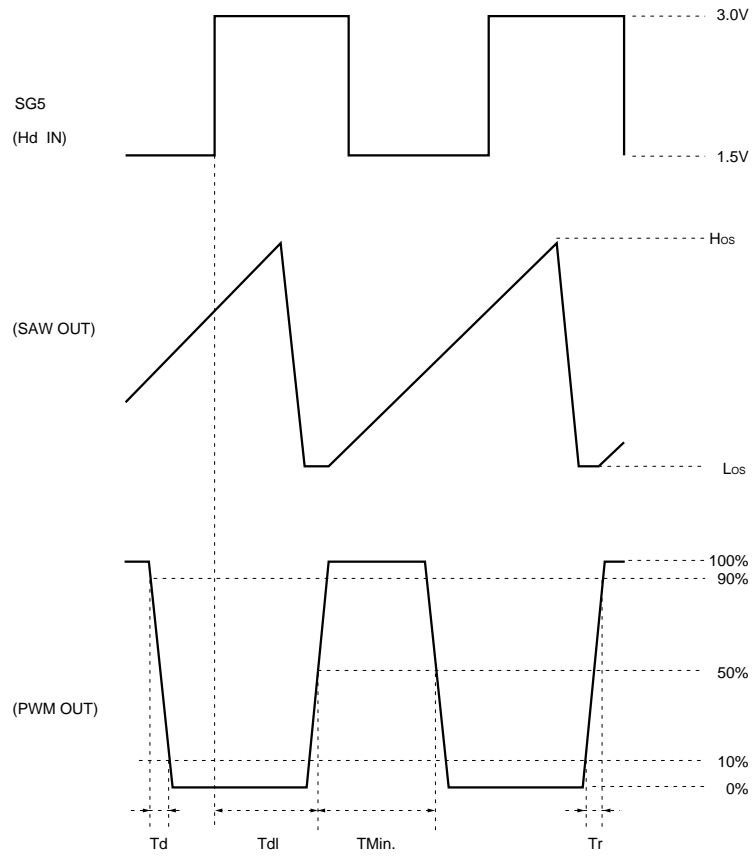

Fig.14
*2 For the method by which the output waveform is determined, refer to Fig. 14.